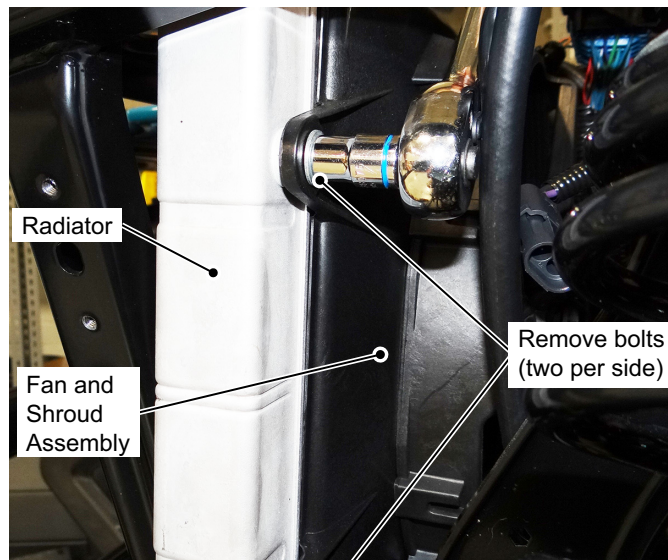

Fig. 6 Remove Fan Assembly Hardware
9. Remove the four bolts (15) securing the fan assembly to the radiator (Ref. Fig. 6). Lift the fan assembly out of the vehicle. Be careful not to damage the radiator fins.